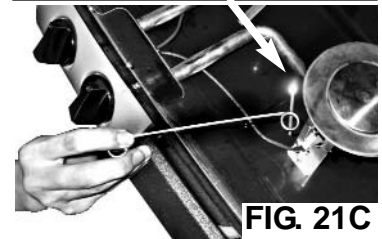

FIG. 21C
- 4) Match light the burner with the supplied match holder and a match near the burner. **(FIG. 21B & Fig. 21C)**